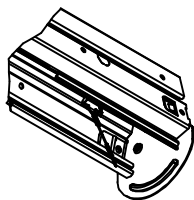

FIGURE 2: TETHER
- C. Secure LED board to housing by looping tether over "T" lance as shown in Figure 2.